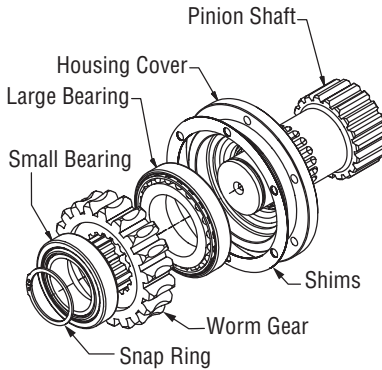

Figure 5-15, Pinion Shaft
5. Remove the pinion shaft assembly. (Figure 5-15)
6. Remove the snap ring from the end of the pinion shaft. (Figure 5-15)
7. Place the assembly in a press supporting the gear cap, not the pinion shaft. Press the pinion shaft through the small bearing and the worm gear. At this point the small bearing, worm gear and large bearing are loose and can be lifted out of the housing. (Figure 5-15)